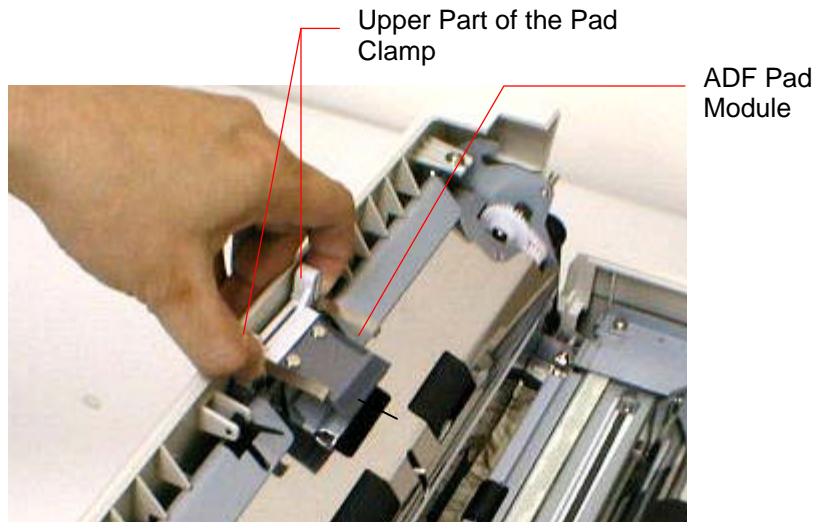

Figure 3-4 Installing the pad module
2. Hold the upper part of the pad clamp and place it gently to the pad holder as shown in Figure 3-4.